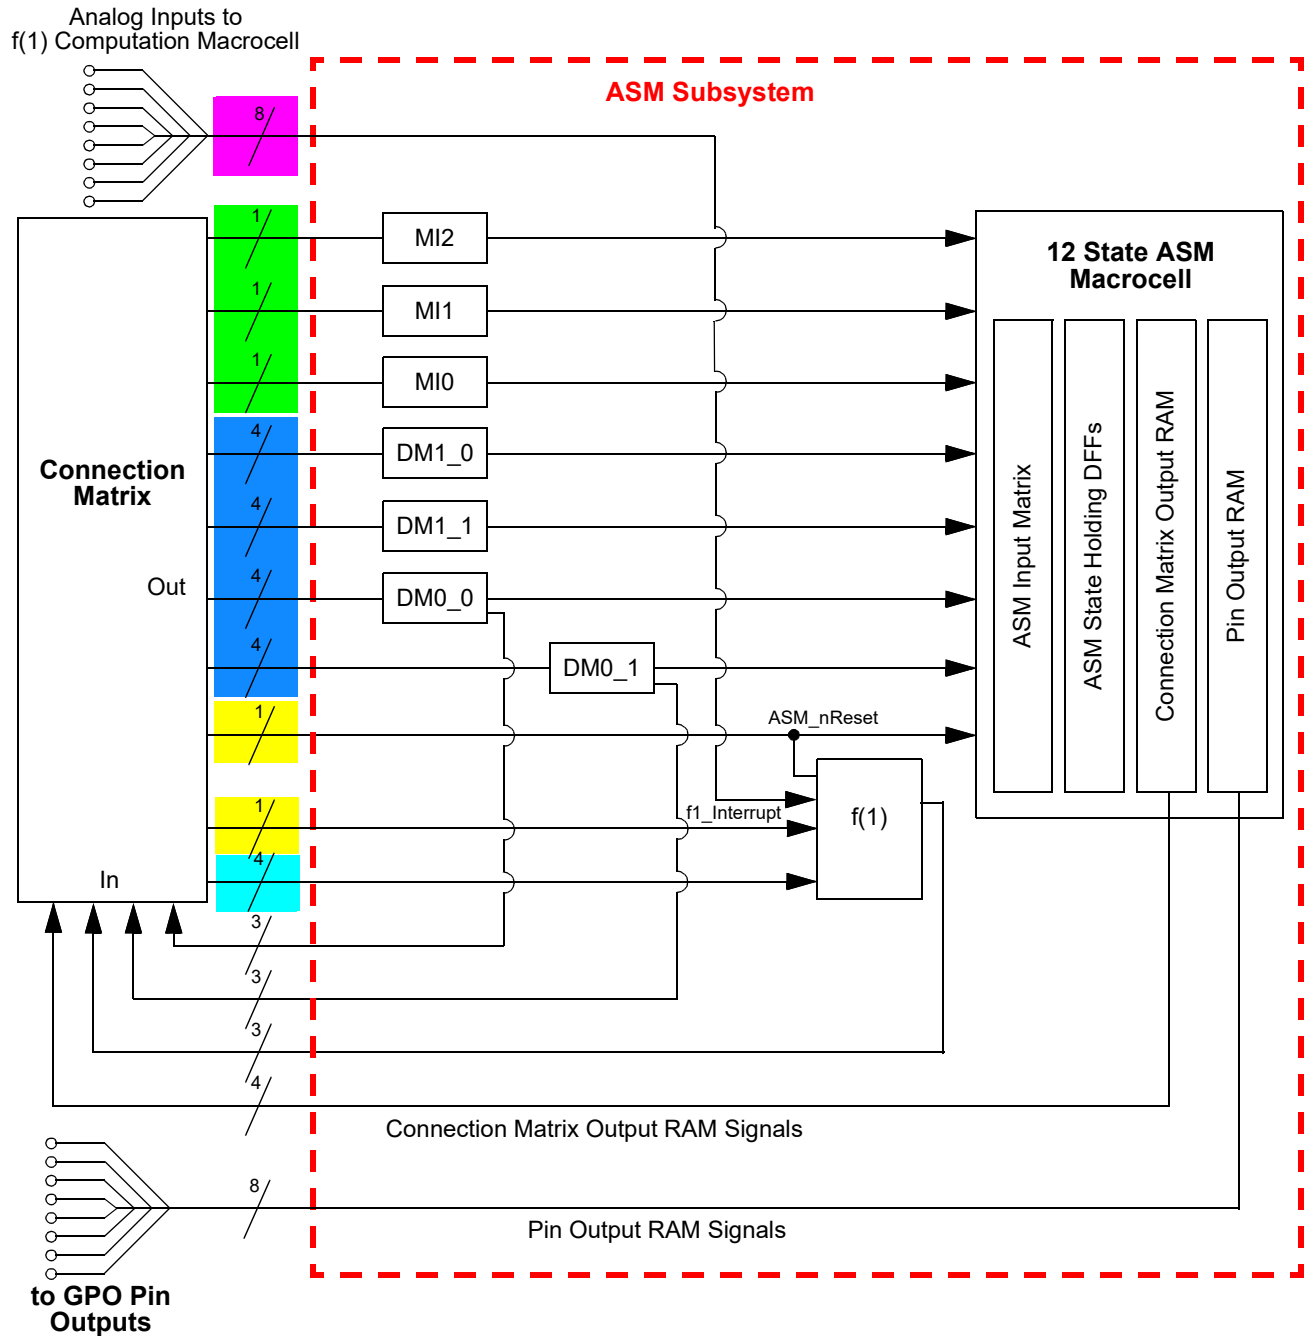
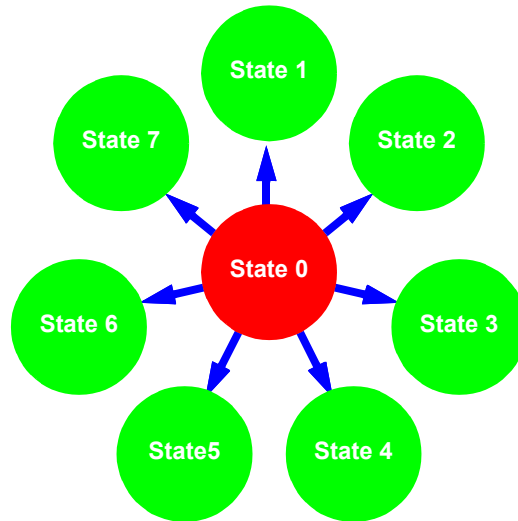
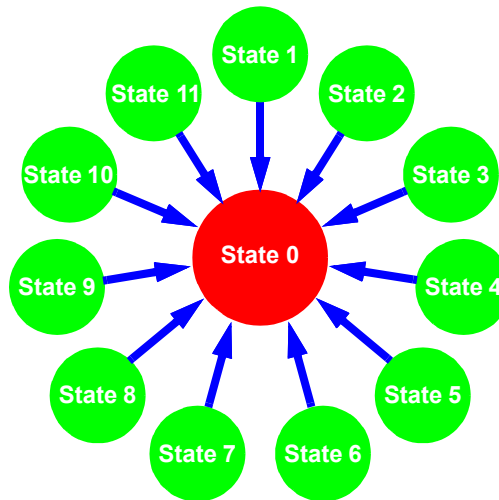

Figure 98: ASM Subsystem Input Signals
Figure 99: Maximum 7 State Transitions out of a Given State
Figure 100: Maximum 11 State Transitions into Given State
The ASM Subsystem has a total of 25 digital input signal lines, as shown in Figure 98, which all come from the Connection Matrix outputs. Of these 25 input signals, 3 are user selectable inputs going directly from the Connection Matrix to the three Matrix Interface (MI) macrocells. There are a total of 16 input signals that go to the DMx macrocell, four per macrocell. There is 1 ASM\_nReset input that is for driving a state transition in both the ASM macrocell and the f(1) Computation Macrocell to an Initial/Reset state. There are 4 digital input signals coming from the Connection Matrix to the f(1) Computation Macrocell. There is also 1 dedicated Interrupt input to the f(1) Computation Macrocell that will halt any active operations and transfer control back to the ASM macrocell. Each of the 25 input signals are level sensitive.
There are a total of 16 digital input signals to the ASM Subsystem which are inputs directly to the DM macrocells. These 16 signals are shown in Figure 98, highlighted in blue. While there are 4 input signals coming from the Connection Matrix and going to each DMx\_x macrocell, there is only 1 output signal from each of these macrocells, which goes directly to the ASM macrocell. There are also 3 signal lines that come directly from the Connection Matrix and go to the three Matrix Interface (MI) macrocells which can drive state transitions. These signals are shown in Figure 98, highlighted in green. This sets an upper bound on the number of transitions that the user can select going **out of** a particular state to be 7, shown in Figure 99. There is no limitation on the number of unique transitions that can be supported going into a particular state, the user can select to have transitions going from a state to all other states, shown in Figure 100. Each of these input signals to the ASM macrocell is level sensitive, and active high. A high level input will trigger a state transition.
There are a total of 8 analog inputs coming from various pins which can be muxed into the positive input for the f(1) Analog Comparator inside the f(1) Computation Macrocell. These 8 signals are shown in Figure 98, highlighted in pink. The f(1) Analog Comparator can be re-programmed for analog input source and negative input reference settings. The user selections for both positive input signal and negative reference are included as part of the information stored in the f(1) Command Register Table. This allows the user to make different analog measurements that are state dependent in their analog sources and reference settings.
The ASM macrocell also has a ASM\_nReset input. This input to the ASM macrocell is level sensitive and active low. This signal is shown in Figure 98, highlighted in yellow. An active signal on this input will drive an immediate state transition to the user-defined Initial/Reset state. The user can choose which state within the ASM Editor inside GPAK Designer will be the reset state.
There is also 1 dedicated f1\_Interrupt input to the f(1) Computation Macrocell that will halt any active operations and transfer control back to the ASM macrocell. This signal is shown in Figure 98, also highlighted in yellow.